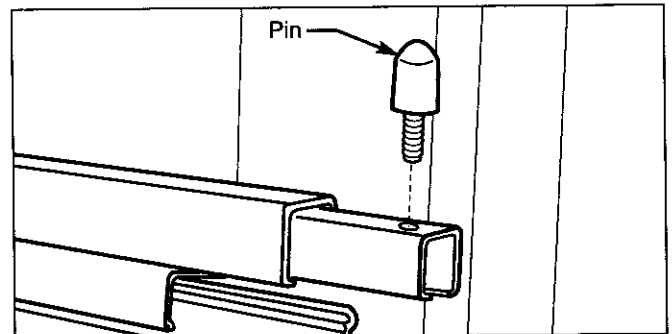

Figure 7-22. Pin Replacement
**NOTE:** The pins at front end of the drawer slides are replaceable. Screw pins counterclockwise to remove them. (See Figure 7-22)